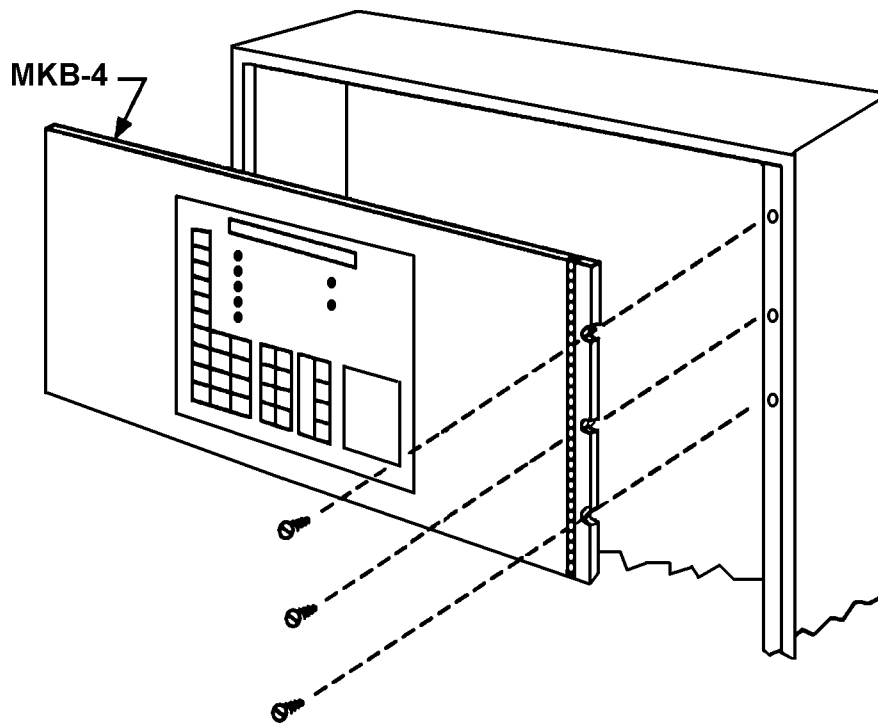

Figure 3
Mounting the MKB-4 (Refer to Figures 3 and 4)
1. Install 3 screws in the first group of 3 tapped holes in the right flange as shown in Figure 3. Leave a 1/8-inch gap between the head of the screw and the flange. Slide the slots of the MKB-4 panel hinge under the head of the screws and tighten.